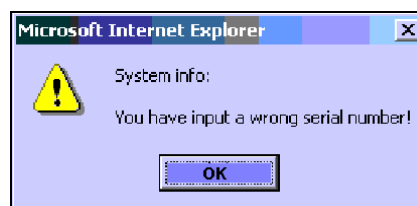

Figure 3-05
2. If the filled serial No. or registration No. is invalid, the screen will display the message as shown in Figure 3-05. Click "OK" button to return to the previous interface to re-fill the correct numbers.